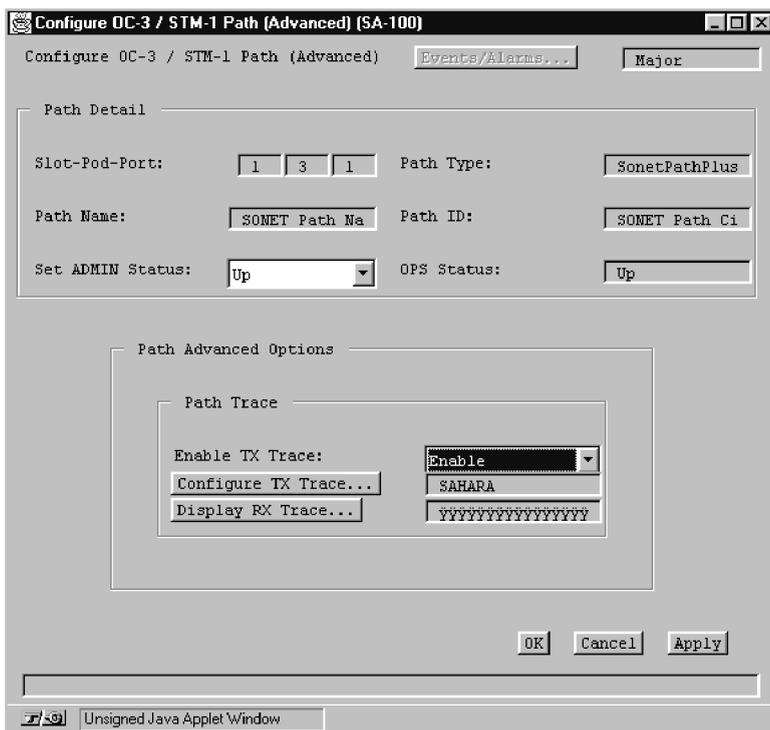

Figure 4-25. Configure OC-3/STM-1 Path (Advanced) Window
1. Choose the Advanced Options button in the Configure OC-3/STM-1 Path window. The Configure OC-3/STM-1 Path (Advanced) window appears (see Figure 4-25).